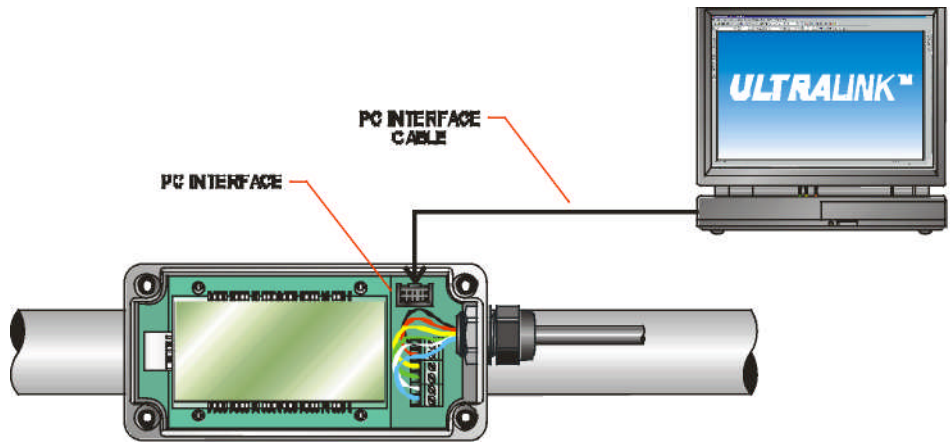

Figure 3.1
1. Connect the PC to the HTT flow meter using the PC communications cable Hedland P.N. HTTF-ULINK. See **Figure 3.1**.